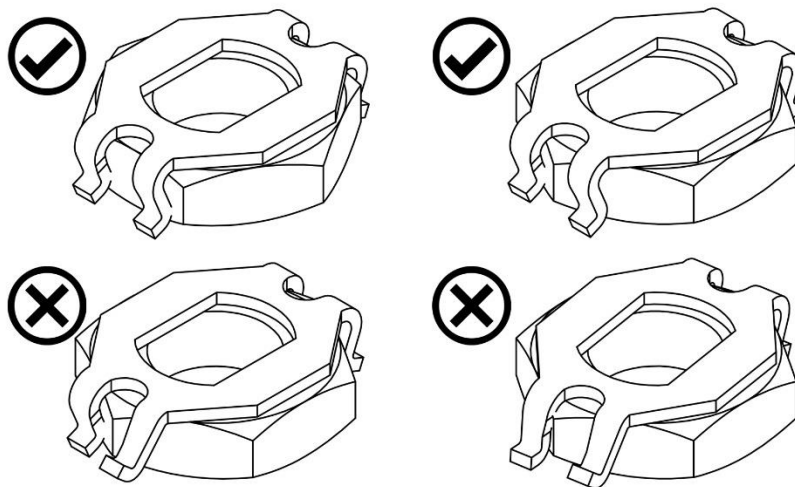

Figure 3 Fitting the locking clip
- d) If the gland nut locking clip has been removed for any reason, it must be fitted correctly as shown in Figure 3.